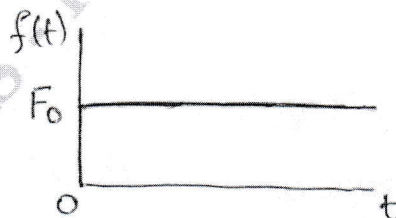

Fig.Q.2(a)
- 2 a. Determine the response of a single DOF system to the step excitation shown in Fig.Q.2(a).